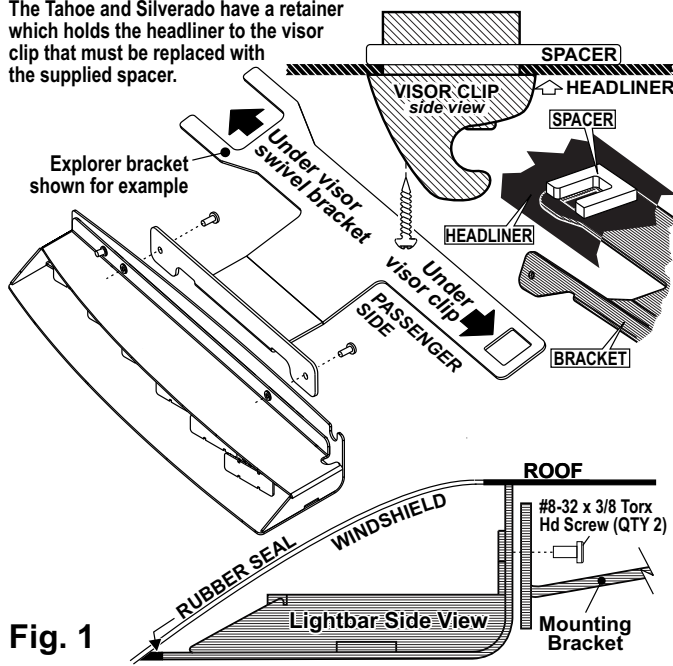

Fig. 1
3. Secure the bracket to the Inner Edge housing using hardware provided (Fig. 1).
4. Position the keyed opening of the mounting bracket directly under the location of the *visor clip* removed in step 2 and remount the *visor clip* in its original location using the original hardware (Fig. 1). Silverado & Tahoe require a spacer (Fig. 1).
Figures 1 thru 3 show the driver side of the interior of the vehicle, shown looking up at the roof.
1. On the driver side **visor swivel bracket**, carefully pry the plastic cover off the front of the bracket (Fig. 1). The lightbar mounting bracket will sit in the space that the cover occupied. **NOTE: Pry the cover off using two flat blade screwdrivers on each side to avoid braking the cover. The cover will not be used but should be saved in case you wish to remove the lightbar in the future.**
2. Remove the **swivel bracket** mounting clip (located under the cover you removed in step 1) and lift the **swivel bracket** assembly out. Install the supplied fastax grommet into the hole in the roof sheet metal which the clip snapped into. Reinsert the **swivel bracket** assembly (Figs. 1 & 2).
Screw (Fig. 1). Loosely mount the bracket to the vehicle then pull the bracket as far back from the windshield as it goes (Fig. 3). With the bracket in place tighten the mounting hardware.
1. Remove the vehicle Visor Clips. The bracket will sit under these clips after mounting (Fig. 1).